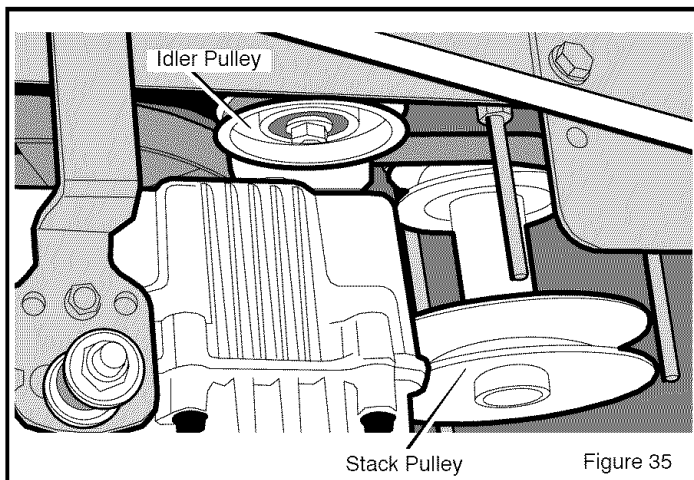

Figure 35
4. Remove the **idler pulley** (see Figure 35).